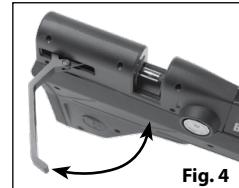

Fig. 4
2. To cock the airgun, grasp the side cocking lever and pull rearward, as illustrated in Figure 4, until an audible click is heard and the lever cannot be pulled any further. The bolt tip should completely clear the shot tray and the lever will remain in the open position when it is released.